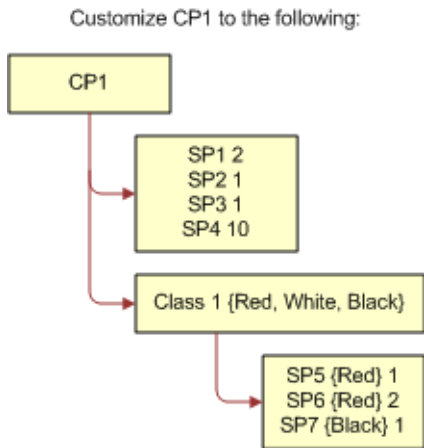

Figure 7. Customized CP1
- 2 CP1 is then customized as shown in Figure 7.
Figure 7 shows the customized CP1 with the following structure: CP1 has four simple product relationships defined (SP1, SP2, SP3, SP4) and a Product Class called Class 1. A further three simple product relationships (SP5, SP6, SP7) are defined and associated with Class 1. Class 1 is associated with an attribute with the values {Red, White, Black}. SP1 has a default quantity of 2, SP2 has a default quantity of 1, SP3 has a default quantity of 1, and SP4 has a default quantity of 10. SP5 has a default quantity of 1 and the attribute value Red. SP6 has a default quantity of 2 and the attribute value Red. SP7 has a default quantity of 1 and the attribute Black.
- 2 Add CP1 to a quote or an order line item, and then customize CP1 as shown in Figure 7.